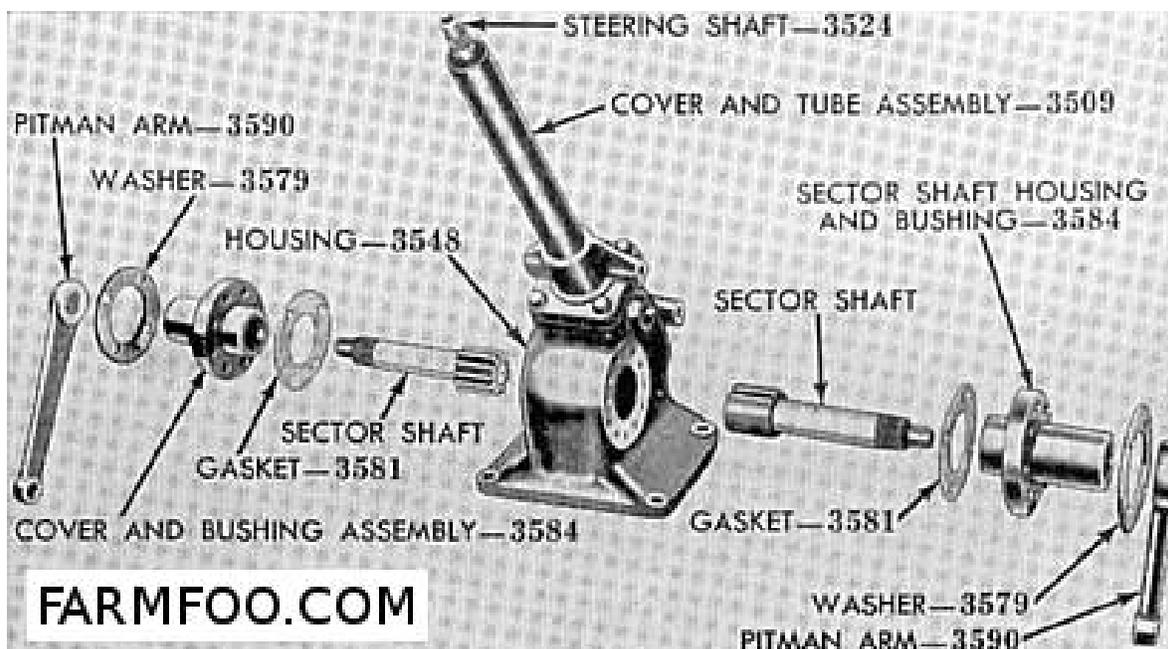

Fig. F08 - Disassembled sector shafts of ball nut gear used on model 8N tractors prior to serial 216989. Later type is shown in Fig. F012.
nut. Refer to Fig. F08. The right sector meshes with the left sector and rotates in the opposite direction. On tractors after serial 216988 the arrangement is reversed as shown in Fig. F012A, the right sector being meshed with the ball nut, and because the sector teeth are of the bevel type a different method of backlash adjustment is employed.
8. SECTOR MESH ADJUSTMENT. Remove four cap screws from left (viewed from rear of tractor) sector shaft cover Fig. F08. Rotate cover and metal gasket counter-clockwise (viewed from left side of tractor) as far as possible by hand and reinstall cap screws in four matching holes. Recheck backlash and if none is present, proceed to adjust right sector in a similar manner, rotating right sector shaft cover clockwise to remove backlash instead of counter-clockwise. IF BOTH SECTOR ARMS NOW HAVE ZERO BACKLASH, STEERING GEAR UNIT IS COMPLETELY ADJUSTED AND WORM SHAFT END PLAY ADJUSTMENT OUTLINED IN PARAGRAPH 9 WILL NOT BE REQUIRED.
gears and covers from sides of gear case – Fig. F08. To facilitate removal of these sub assemblies, turn them clockwise and they are withdrawn. Remove shaft tube flange cap screws and lift assembly off of gear case. CAUTION: Do not turn worm shaft if nut is near either end of worm as ball retainers may be damaged.